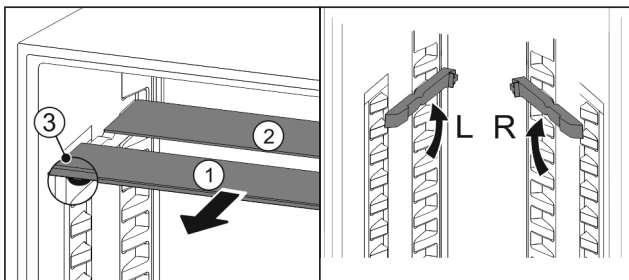

Fig. 198
- Pull the glass panels out Fig. 198 (1) from the front, one at a time.
- The glass panel Fig. 198 (1) and trim strip are at the front.
- The stops Fig. 198 (3) point down.